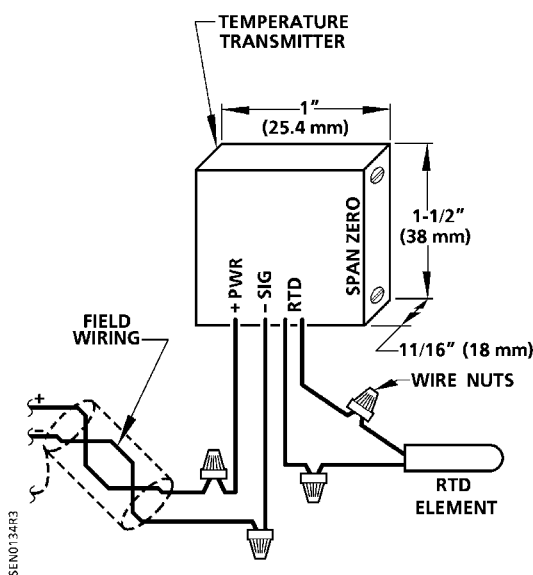

Figure 2. Analog Temperature Transmitter Wiring Connections for 100 ohm RTD Sensors (Option A).
- Connect the sensor leads, at the utility box, to the appropriate transmitter wires. See Figure 2 and Table 1.
- Connect the field wiring from the controller to the transmitter. The positive (+) 26V supply lead goes to the PWR wire of the transmitter and negative signal lead goes to the SIG wire. See Figure 2 and Table 1.
- Connect the field wiring at the controller. See Figure 2.